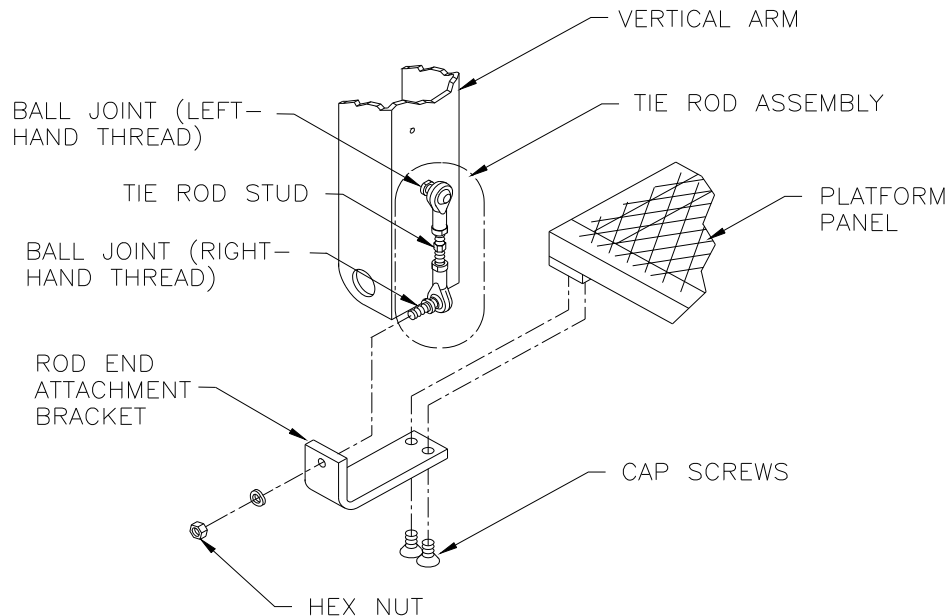

FIGURE 2-16: TIE ROD INSTALLATION
- b. Refer to **Figure 2-16**. Assemble rod end attachment brackets to left and right tie rod assemblies at right-hand ball joint.